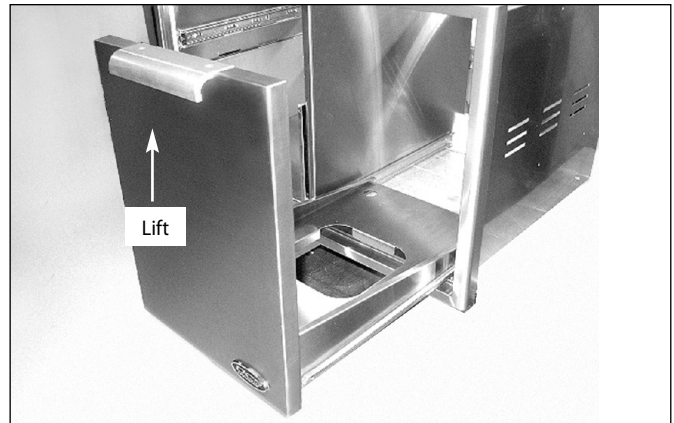

Fig. 8
2. To remove the LP tank drawer on the right, pull the drawer out and lift the end by the handle to disengage the rollers (Fig. 8).